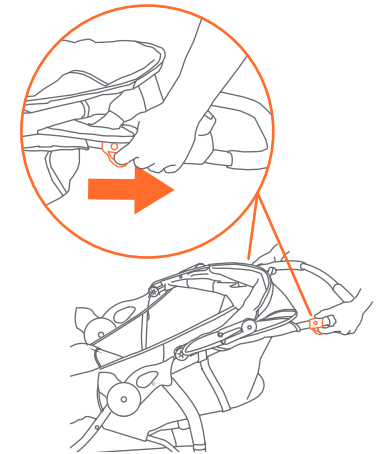
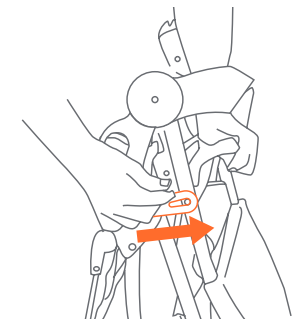

Fig. 22a
Fig. 22b
• The stroller is folded by simultaneously pulling each trigger fold (Fig. 22a). When the fold latches are released, the handle will begin to fall toward the floor. Release the fold buttons and press downward on the stroller handle until the stroller is completely folded. Secure the stroller in the folded position by locking the fold latch, located on the right side of the stroller, over the rivet that protrudes from the frame (Fig. 22b).